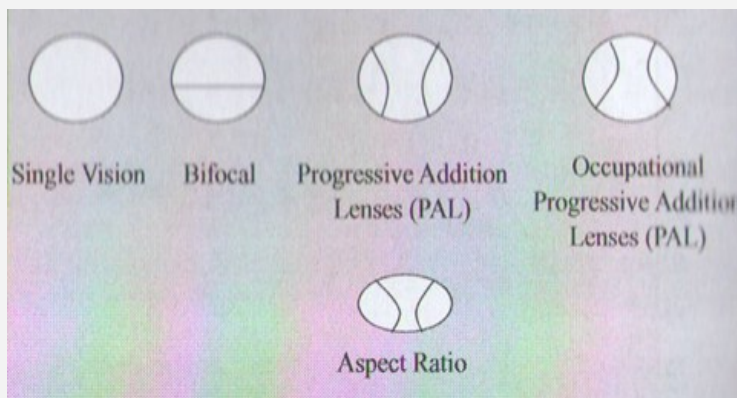

Figure 5: Zones of fixed-focus vision for different designs of lens commonly prescribed to correct for presbyopia (taken from reference 4)
Will prescription spectacles or over-the-counter readers reverse the effects of presbyopia for those older mechanics who inspect aircraft? While both offer additional refractive power, the wearer must recognize their zones of vision. Figure 5 shows the zones of vision for five common lens designs used as correction for presbyopia (4). For each lens design, this figure shows the areas of fixed-focal vision. Those wearing bifocals will note a line of